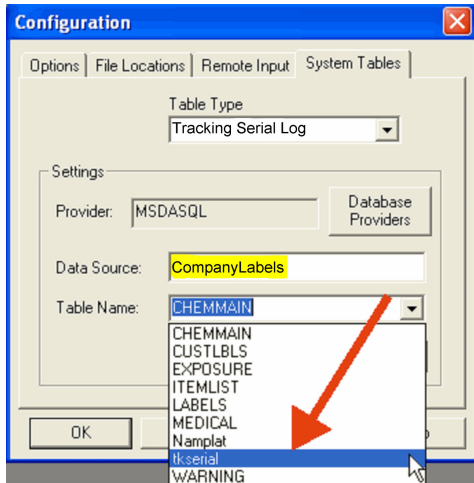
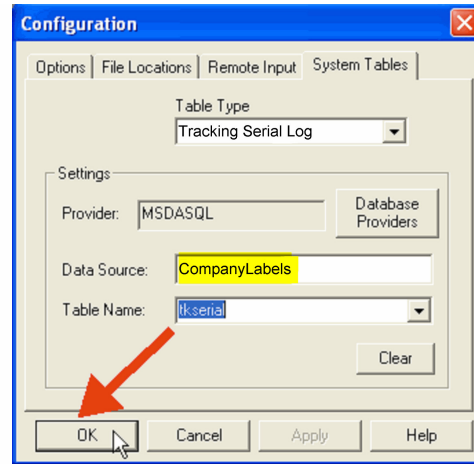

Figure 4-8a
Figure 4-8b
4.2.9. Select *tkserial*, (Figure 4.8a) and then click [OK]. (Figure 4-8b)